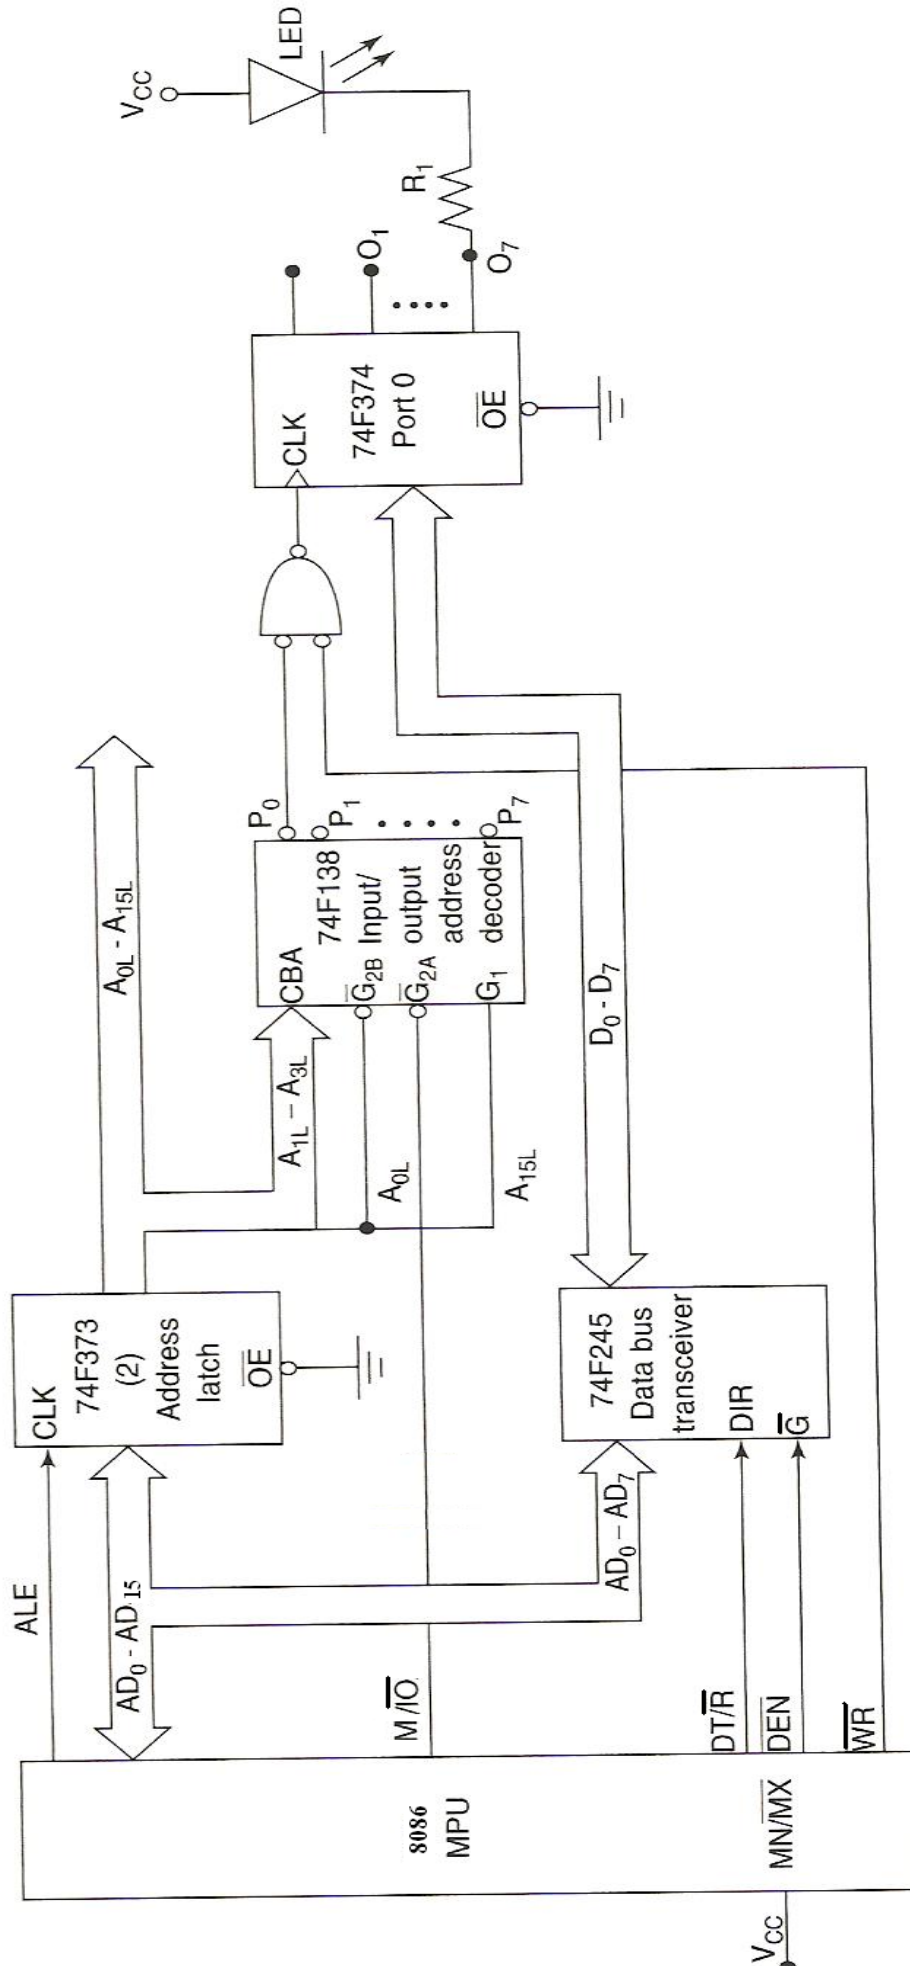

Figure 12-4: Driving an LED connected to an output port.
The circuit in Figure 12-4 show how to attach a LED to output port **O₇** of parallel **port 0**. The port address is 8000H, and the LED corresponds to **bit 7** of the byte of data that is written to port 0. The circuit use 74LS374 (edge clocked octal latch).
Example 12-3: Write instruction sequence to make the LED (in Figure 12-4) blink.
Example 12-4: For figure 12-4, what is the I/O address of port 7 on the circuit? Assume all unused address bit are at logic 0.
6. What is the address of output port 3 in the circuit shown in figure 12-4?